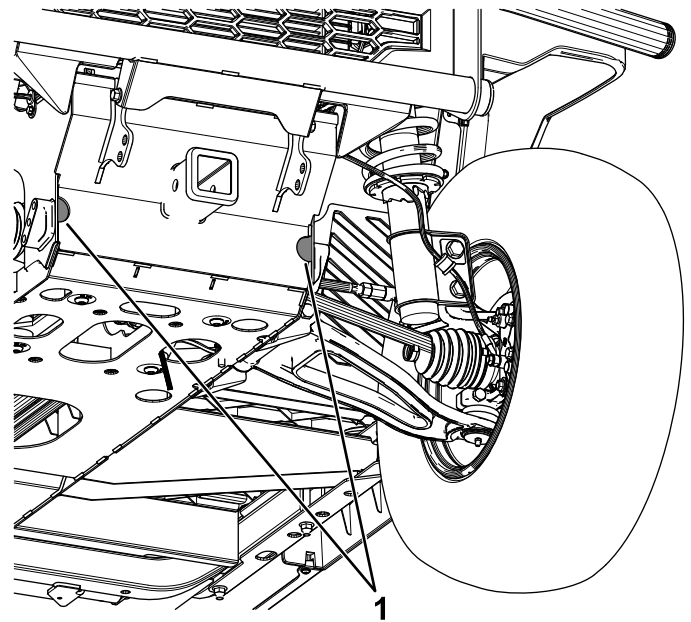
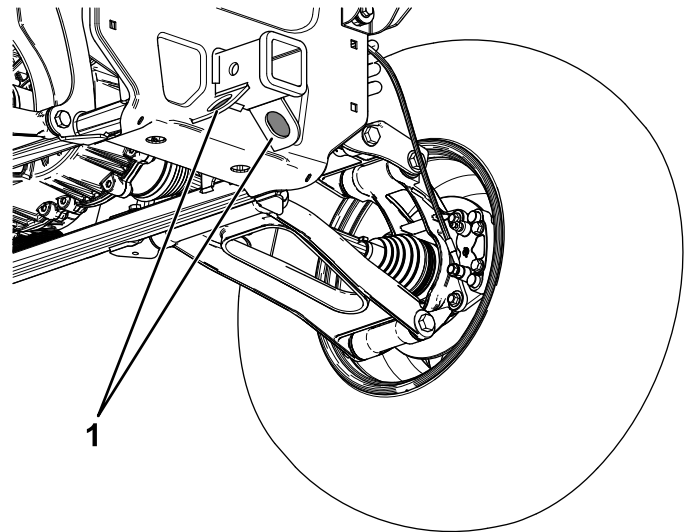

Figure 87
Figure 88
Refer to Figure 87 and Figure 88 for the tie-down locations on the machine.
1. Affix a tow line to the tongue at the front of the frame of the machine (Figure 87).